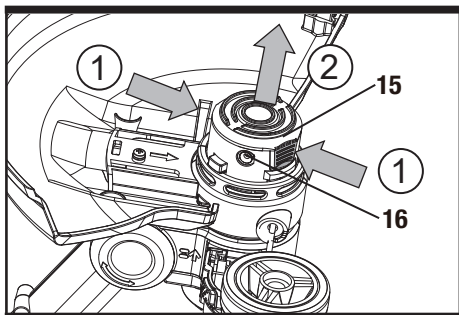

Fig.N1
15. Spool cap release latch (See Fig. N1)
16. Eyelet (See Fig. N1)